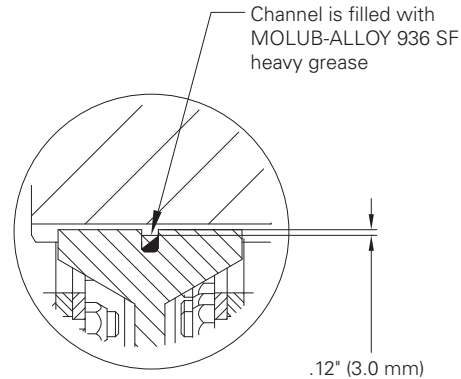

Figure 3
2.2.6 Pre-fill the grease channel in the friction disc splines (if applicable) with MOLUB-ALLOY® 936 SF Heavy or equivalent grease, as shown on Figure 3.